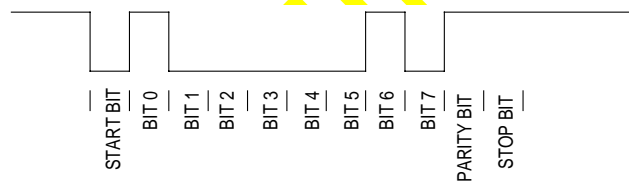

Figure 11-2. NRZ ASCII "A" Character with Odd Parity
The UART module has two operating modes—NRZ and infra-red. NRZ mode is usually associated with RS-232. Each character is transmitted as a frame delimited by a Start bit (0) at the beginning and a Stop bit (1) at the end. Data bits are transmitted least-significant bit first and each bit is presented for a full bit time. If parity is used, the parity bit is transmitted after the most-significant bit. Figure 11-2 illustrates an 8 bit ASCII "A" character (41 hex) with odd parity.